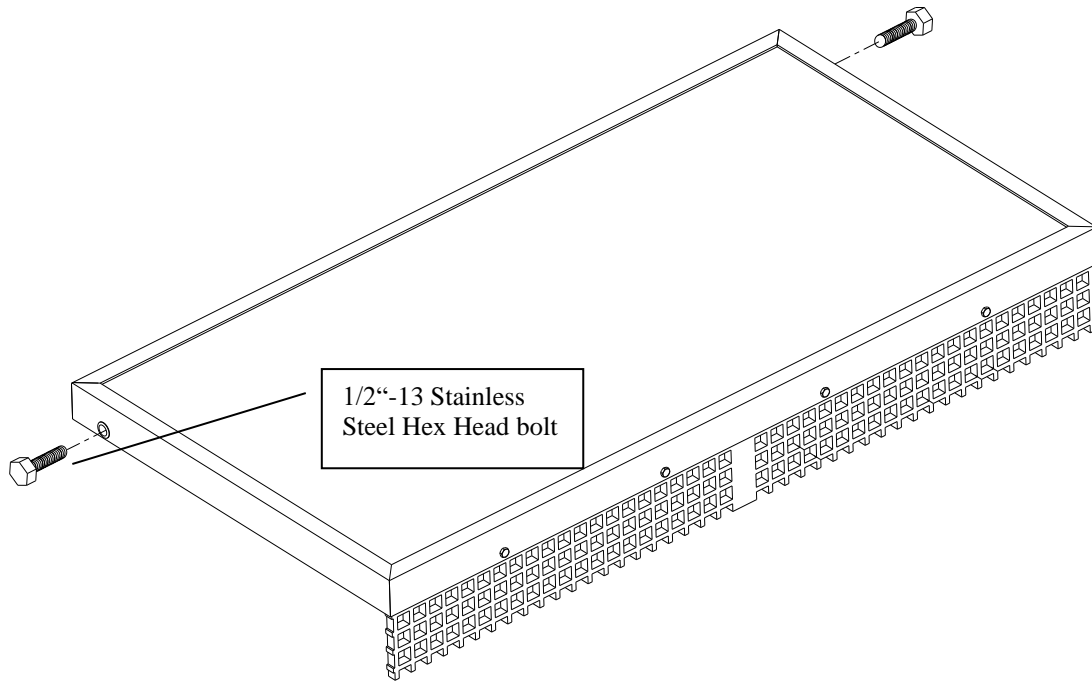

Figure 14
4. Insert (2) 1/2"-13 x 1 3/4" bolts supplied into the threaded plugs as shown in Figure 14.